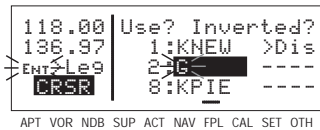

Figure 4-109
- Use the inner knob to enter the first character of the waypoint being inserted. As you begin to turn the knob, the existing waypoint in this position automatically jumps down to the next position. In this case, **SJI** automatically moves to waypoint 3 and **KPIE** changes to waypoint 8 (figure 4-109).